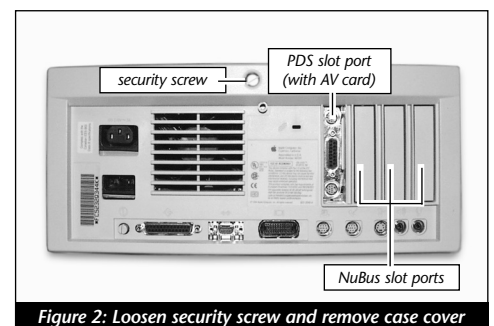

Figure 2: Loosen security screw and remove case cover
3. Open your Power Macintosh by first loosening the security screw (*Figure 2*) on the back of the case with a large flatblade screwdriver; then, gently slide the case cover off the computer.